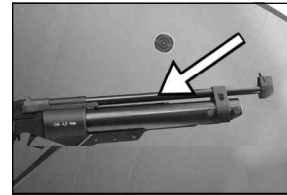

Figure 8
**Barrel:** The barrel of your air pistol is made of steel and has groove rifling. See **Figure 8**. Never put the barrel in a position where it could be bent or damaged. A bent barrel will lead to accuracy problems or could even lead to a pellet being stuck in the barrel. After shooting, always clean the barrel with a light oil.